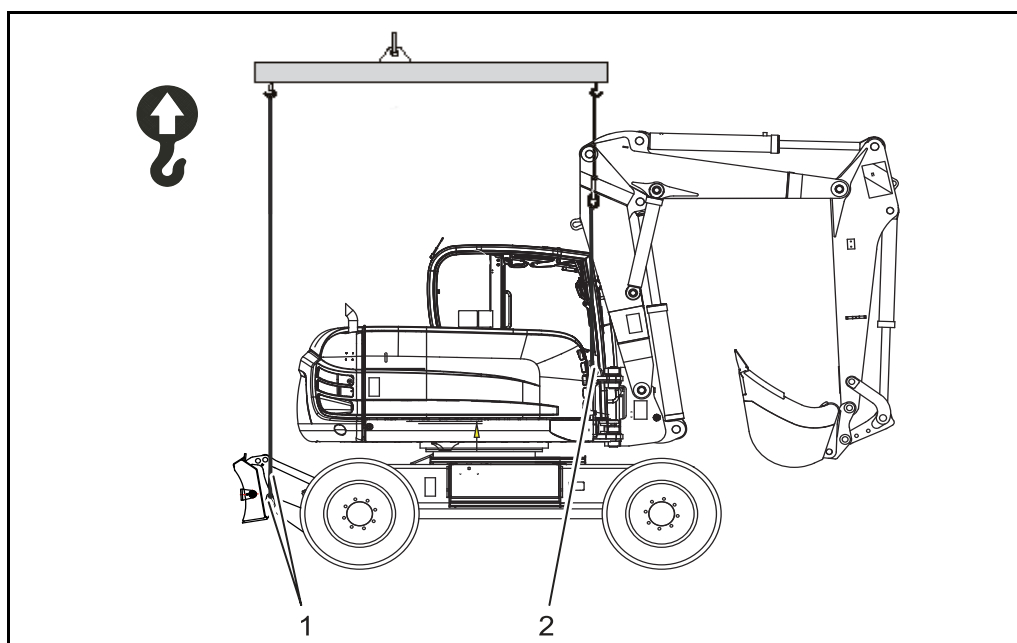

Fig. 8-5 Loading the machine using a crane
- ◆ Raise the boom to the specified (Fig. 8-5) height.
- ◆ Attach the machine to the 3-point lifting gear at the points illustrated (Fig. 8-5) in the correct manner